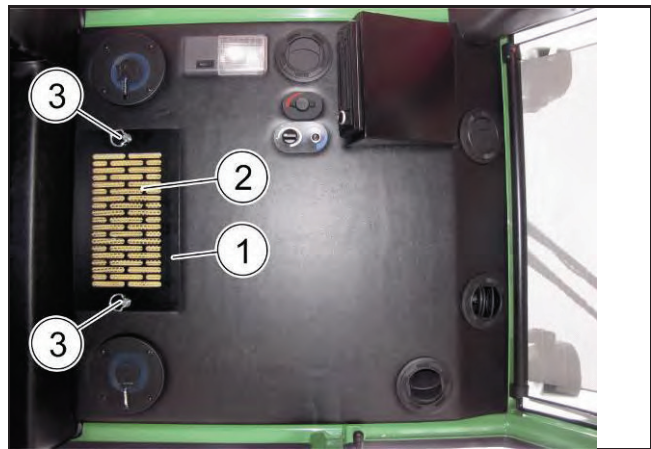

Fig. 271
4. Reinsert the filter element (1) into the cabin ceiling.
5. Turn the locks (Fig. 271/3) anticlockwise by 90° to fix the filter element in the cabin ceiling.